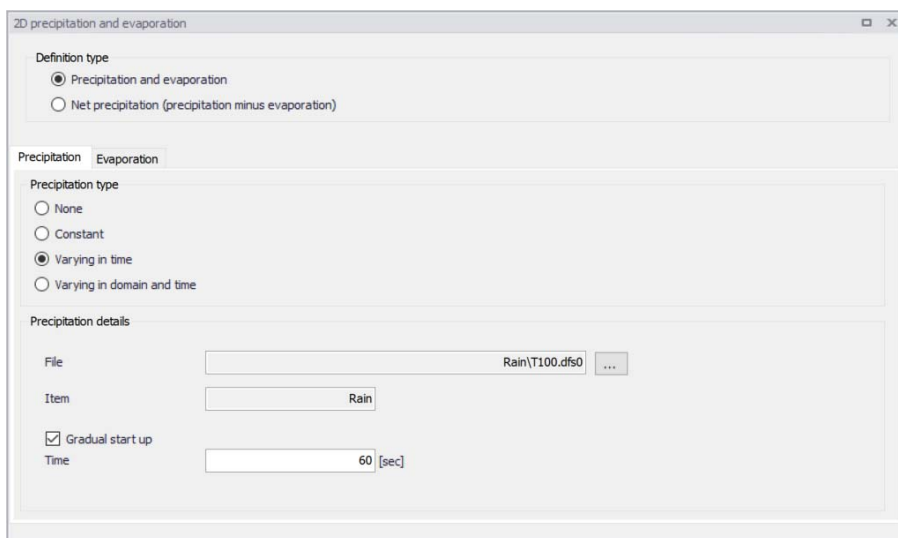

Figure 4.23 The 2D Precipitation and Evaporation editor
These options are available on the 2D Precipitation and Evaporation editor when the 2D Overland Hydrodynamic (HD) module is active (Figure 4.23).